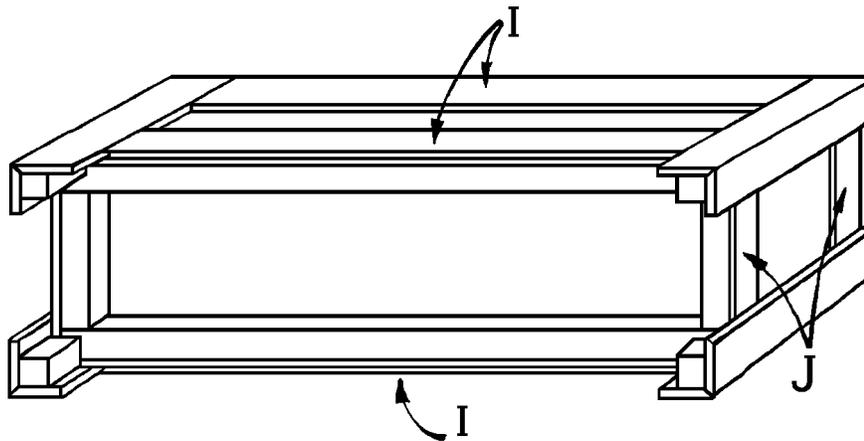

Figure 6
8. Cut four long horizontal trim pieces (I) from 1 x 4 pine, each measuring 46-1/2 inches.
9. Glue and screw one long horizontal trim piece (I) between the two vertical trim pieces
(G), putting it flush with the top of the front (C) as shown in *Figure 6*. Again, to avoid screw holes on the outside, screw through the inside of the front (C) into the long horizontal trim piece (I). Use 1-1/4-inch-long screws placed about every 5 inches.
10. Glue and screw one short horizontal trim piece (J) between the two vertical trim pieces (G), placing it flush with one side (A), as shown in *Figure 6*. Again, screw through the side (A) into the short horizontal trim piece (J). Use 1-1/4" screws placed about 5 inches apart.
11. Glue and screw a second short horizontal trim piece (J) flush with the bottom of side (A), as shown in *Figure 6*. Screw through the inside of the side (A) into the short horizontal trim piece (J), and use 1-1/4" screws placed about 5 inches apart.